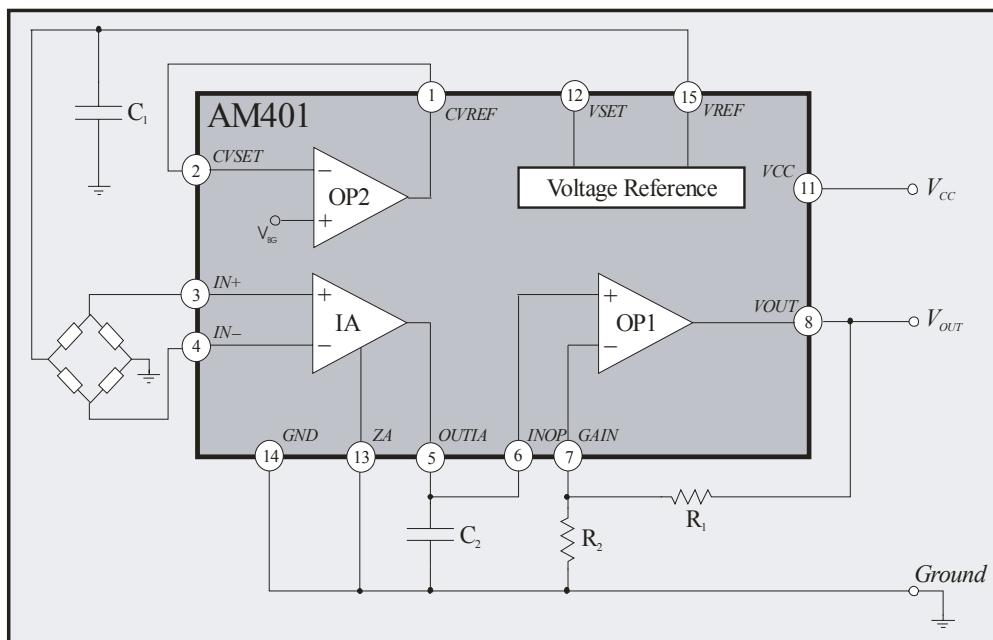

Figure 3: AM401 used as an industrial bridge amplifier
2. All of the AM401 function blocks not used by the application (e.g. OP2) must be connected up to a defined (and permitted) potential. Unused blocks, such as the additional operational amplifier (see Figure 3), must be configured. The two capacitances  $C_1$  and  $C_2$  must be connected up in any event, even if the reference voltage source is not used.